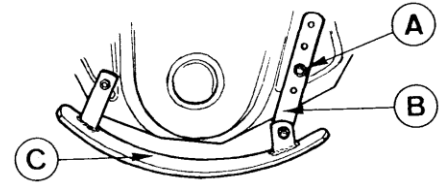

Fig. 44
For model fitted with side mounted depth control skids: **Fig. 44** illustrates the attachment of the left hand skid. Slacken nut (A) on the adjusting bar (B). Position the skid (C) to the required depth of work and re-tighten the nut